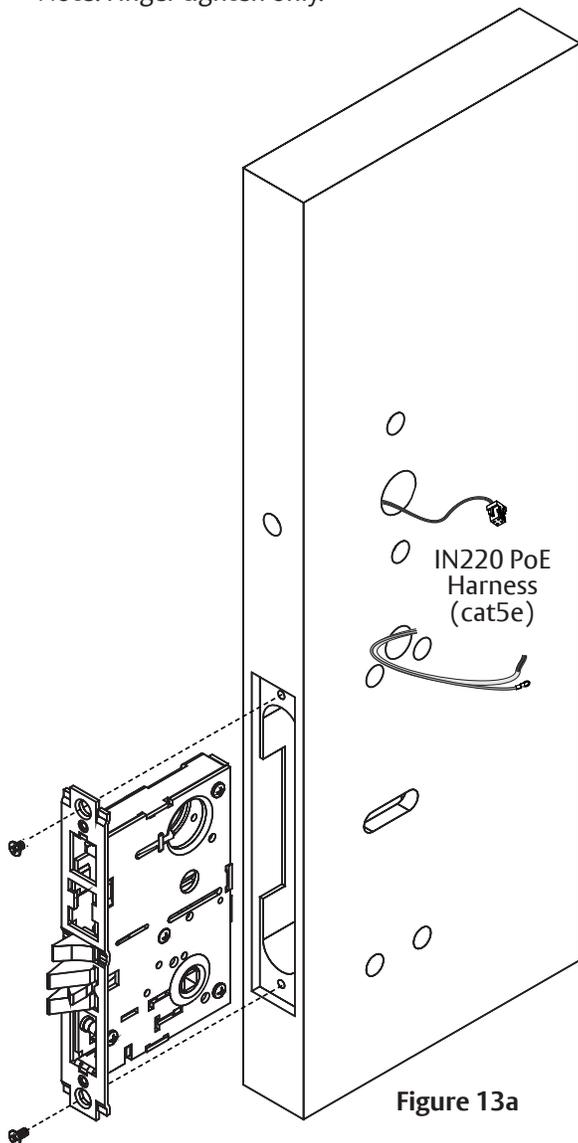

Figure 13a
1. Insert lock body (Figure 13a).